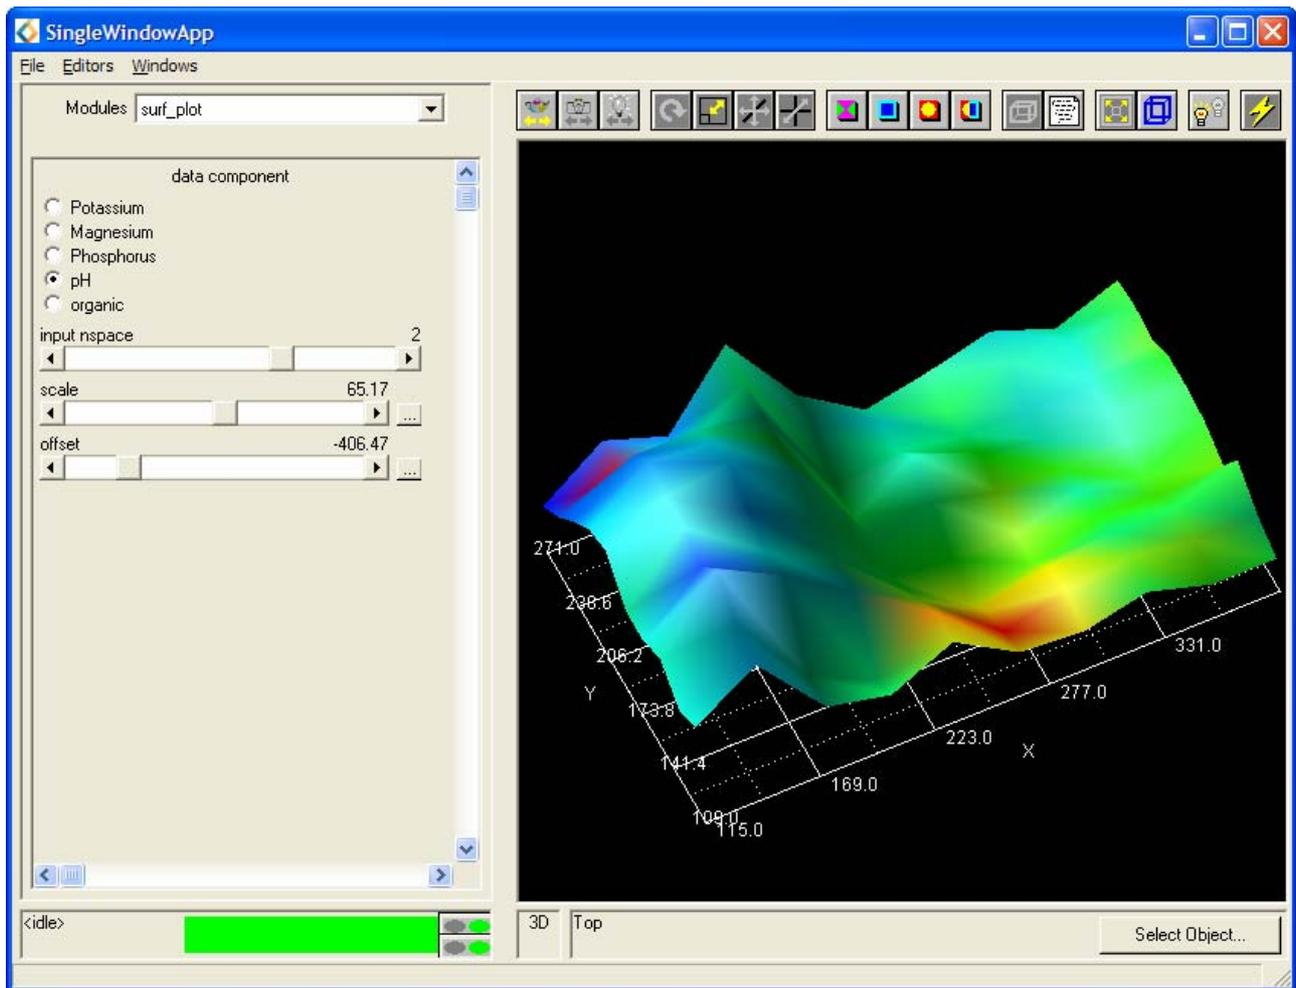

Figure C.46: surf\_plot Editor Panel and Transformed Image
- Using the Data Visualization Wizard Editor Panel produce an image similar to that shown in Figure C.46. If necessary use trial and error in order to locate the correct modules.